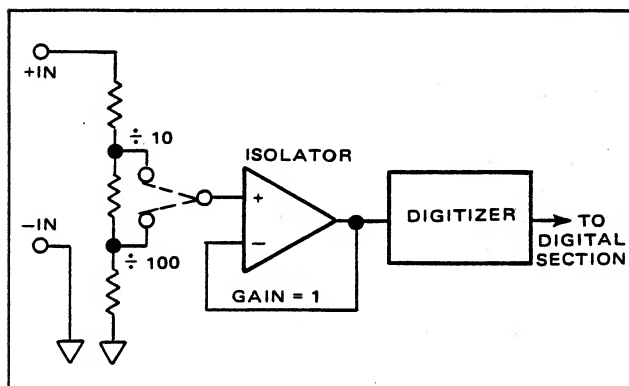

Figure 5.6 - 100 and 1000 Volt DC Ranges
5.3.4.3.6 *100 and 1000 Volt Ranges.* The signal from the +IN terminal is routed through contacts of the Attenuator/Reference board 100+1000 relay to the attenuator. The attenuator scales down the input signal by a factor of 10 (100 volt range) or 100 (1000 volt range). The attenuated signal is routed through the contacts of the 1+100 and 100+1000 relays to the positive input of the Isolator. The Isolator output is fed back directly to the negative input (through the normally closed contacts of the .1+1 relay) to obtain a closed loop gain of 1.0. The -IN terminal is connected to analog common through contacts of the Ohms relay. A simplified block diagram is shown in Figure 5.6.